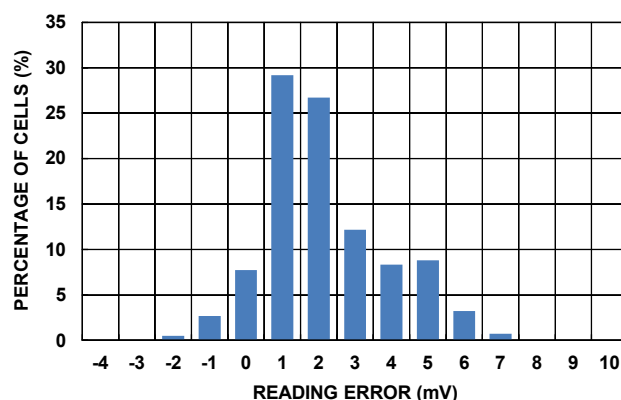

FIGURE 8. CELL READING ERROR FROM EVALUATION BOARDS AT CELL VOLTAGE FROM 2.6V TO 4.0V, AND -20°C TO +60°C HISTOGRAM
10. Stresses may be induced in the ISL78610 during soldering or other high temperature events that affect measurement accuracy. Initial accuracy does not include effects due to this. See Figure 8 on page 16 for cell reading accuracy obtained after soldering to Intersil evaluation boards. When soldering the ISL78610 to a customized circuit board with a layout or construction significantly differing from the Intersil evaluation board, design verification tests should be applied to determine drift due to soldering and over lifetime.